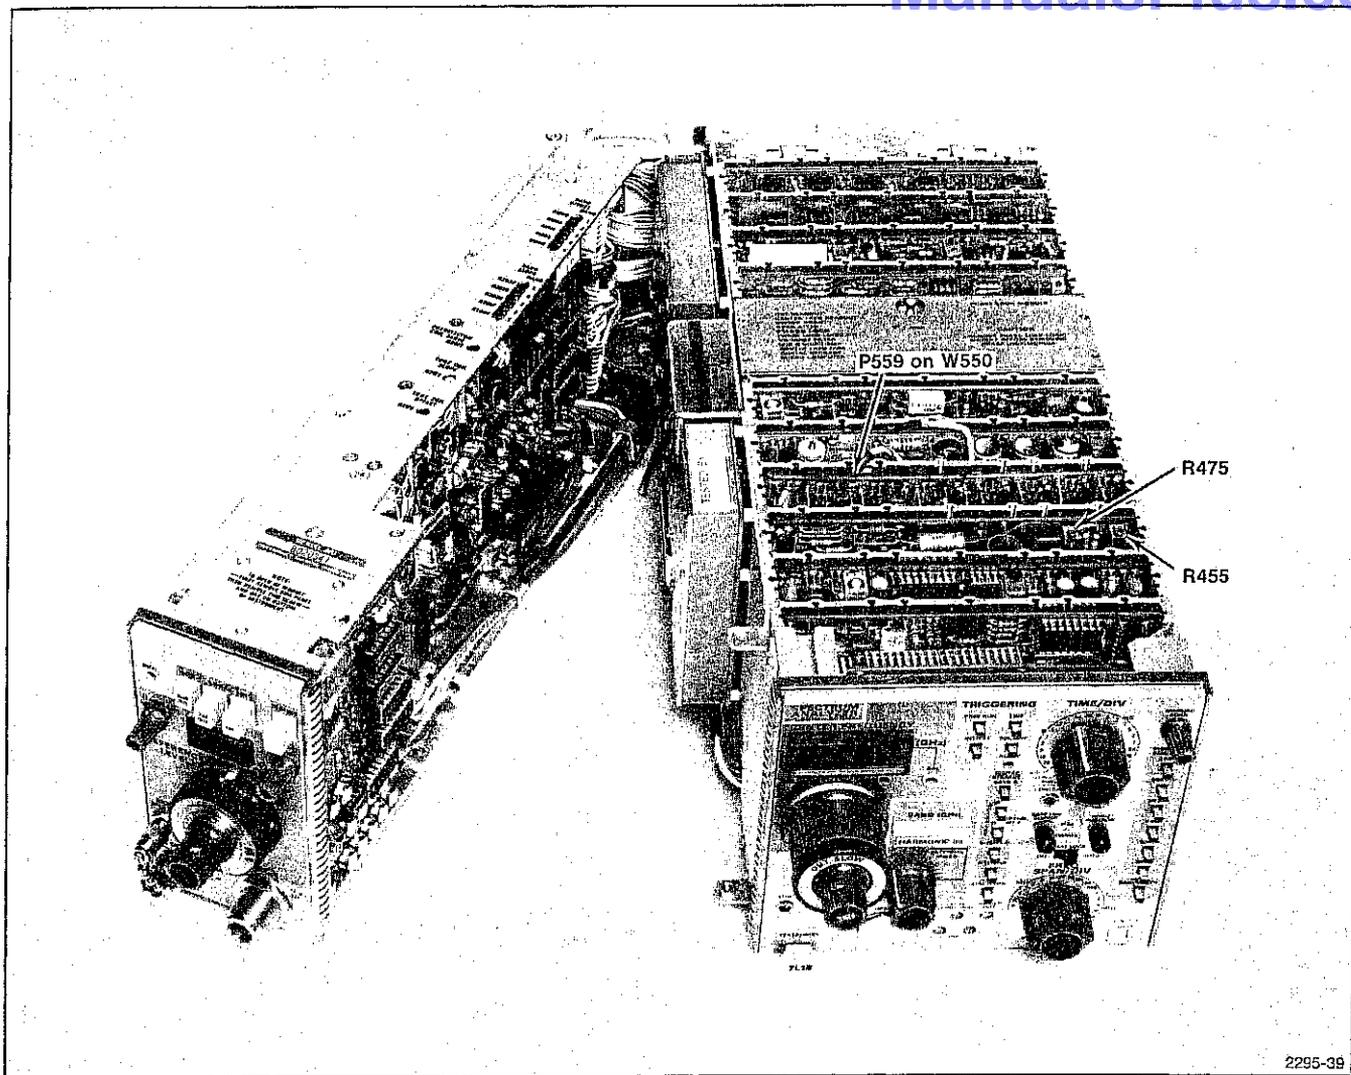

Fig. 4-31. Location of Adjustments on Center Frequency DVM.
i. Adjust Offset R475 (see Fig. 4-31) for a Center Frequency readout of 2.490 GHz.
l. Adjust Gain R455 on the Center Frequency DVM board (see Fig. 4-31) for a readout of 1.5 GHz.
4. With the front panel CAL adjustment centered, adjust Center Frequency DVM Offset R475 (see Fig. 4-31) for a readout of 2.490 GHz.
6. Adjust DVM Gain R555 (see Fig. 4-31) for a readout of 1.5 GHz.
b. Disconnect the signal cable, W550, between the Log Amplifier board input and the output from the VR Noise Filter board (see Fig. 4-31).